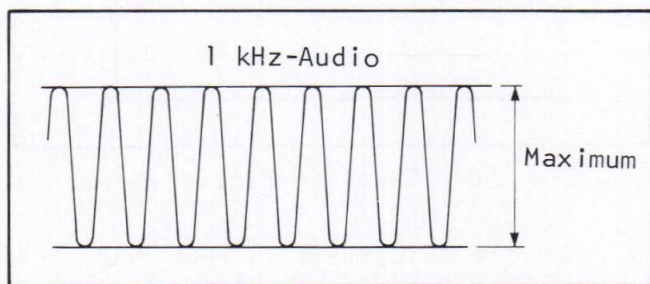

Fig. 43 A/C Head Adjustment -- (1)
3. Adjust the screw (A) and the Hex. screw in the Fig. 43 to obtain the maximum output level.